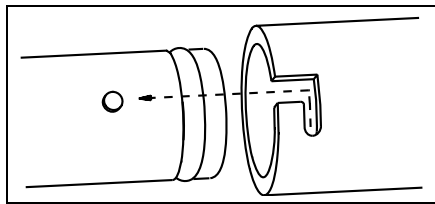

Fig. 10
23. Press distal hub of catheter contamination shield over assembly cap. Twist to lock (refer to Fig. 10).